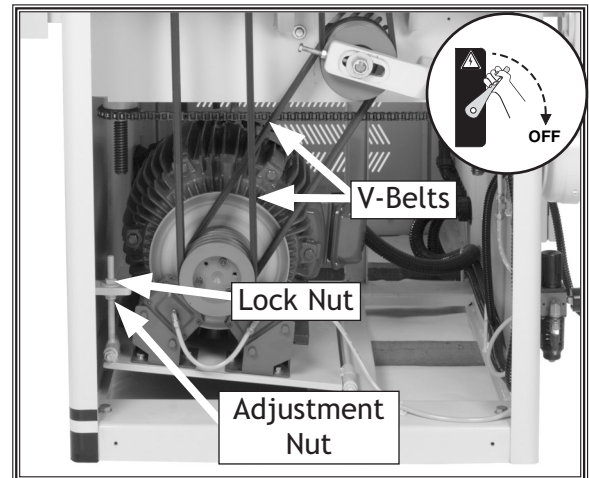
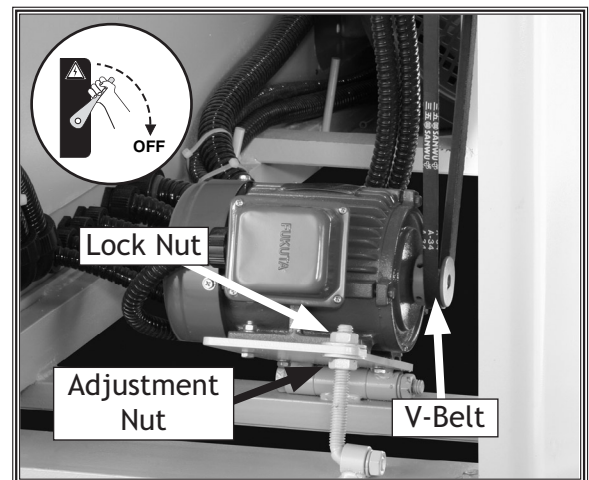

Figure 46. Sanding motor V-belts.
Figure 47. Table elevation V-belt.
The sanding motor (Figure 46) and table elevation motor (Figure 47) V-belts must be tensioned properly for best performance. Always replace the sanding motor belts as a matched set. Both table elevation and sanding motor belts are adjusted the same way.
2. Loosen the lock nut (Figures 46 & 47).